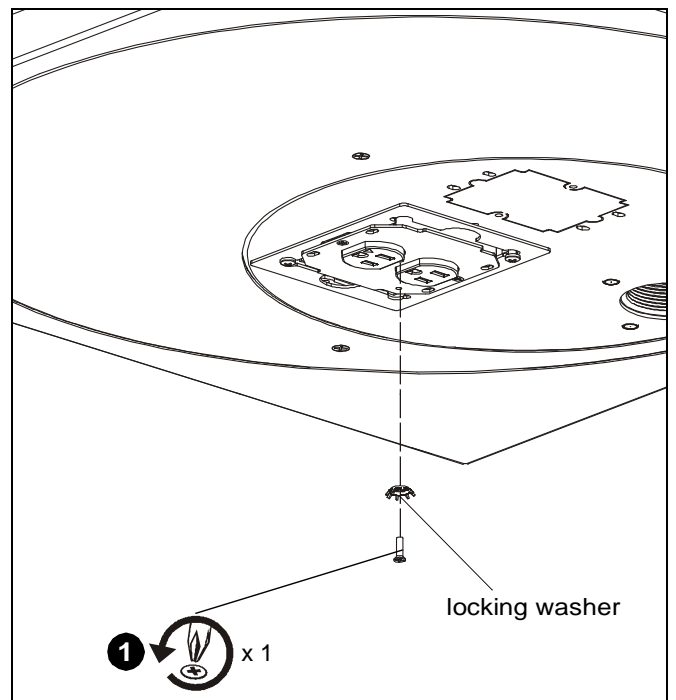

Figure 7
1. Remove 6-32 x 1/2" Phillips flat head screw and #06 locking washer from outlet box. (See Figure 7)